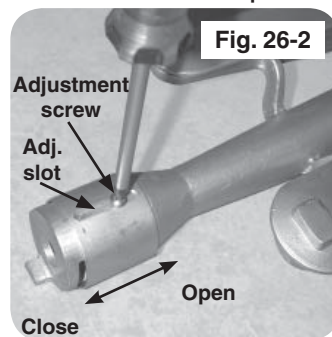

Fig. 26-2
2. Adjust the air shutter opening by loosening the adjustment screw with a screwdriver, then sliding the air shutter backward or forward to open or close the air shutter opening (see Fig. 26-2).